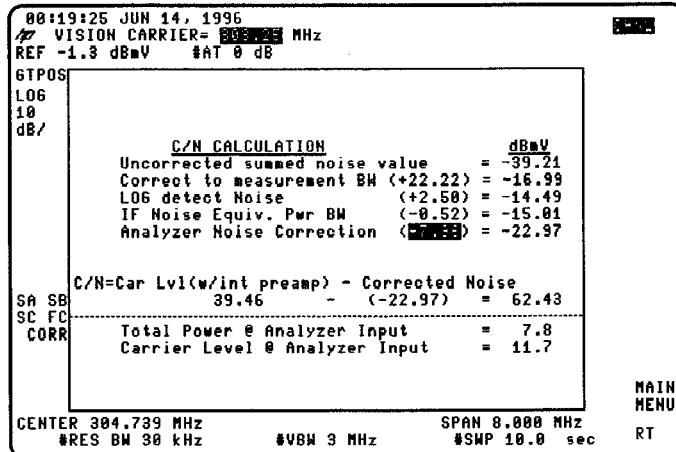

Figure 2-16. Carrier-to-Noise, More Information
7. Pressing **MORE INFO** displays the carrier/noise calculation. See Figure 2-16.